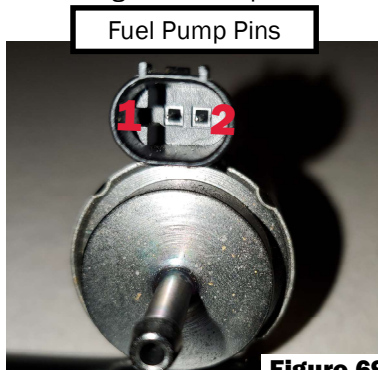

Figure 69
- Fuel Pump is required to be installed horizontally. It is not recommended to mount the assembly rotated 180° (see Figure 69).